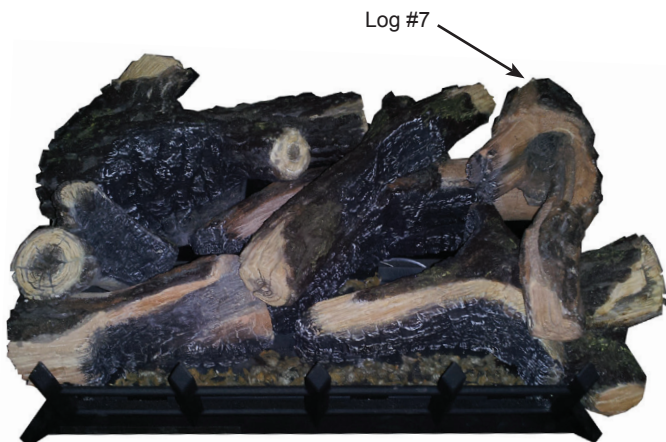

Figure 51
7. Place top right log #7 on the two (2) pins located on log #2 and log #1. *Figure 51*